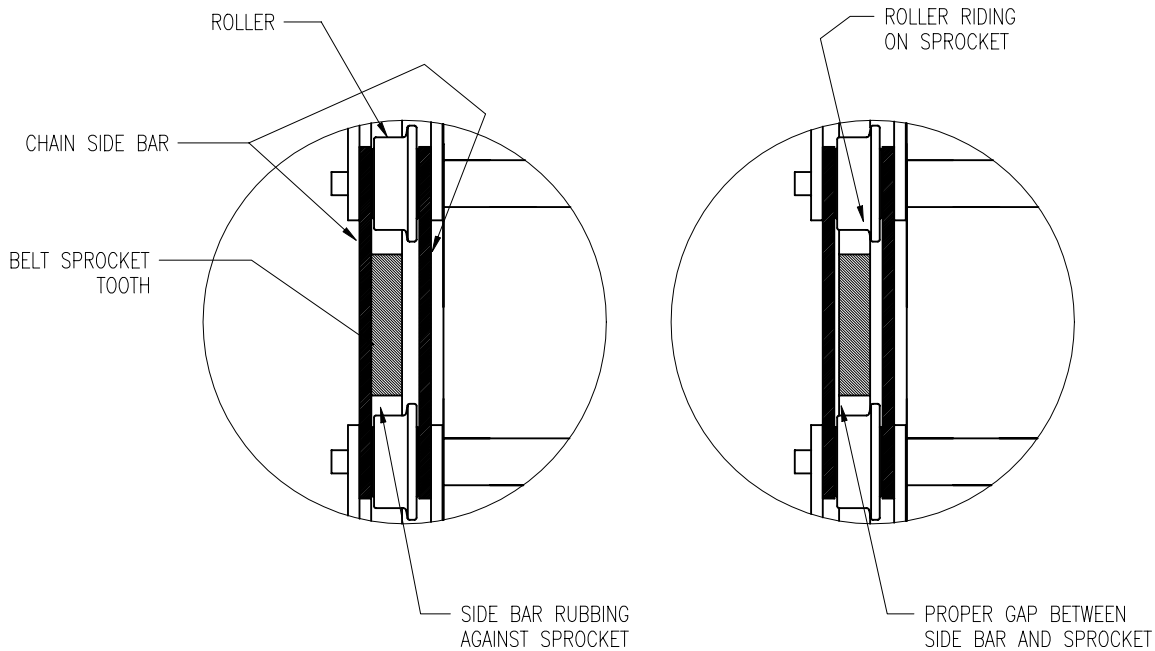

Figure 19: Top view of head or tail shaft at belt sprocket showing proper clearances between belt side bars and sprocket teeth.
8. The belt must be centered on the head shaft (See Figure 19). Clearances between the belt sprocket and the side bars on both sides of the head shaft should be equal. If the belt is not centered, tighten the side where the sprocket is close to the outside side bar (or loosen the other side). Tighten only a couple of turns, then restart the conveyor and observe the belt for at least one complete revolution. Repeat as required until centered.